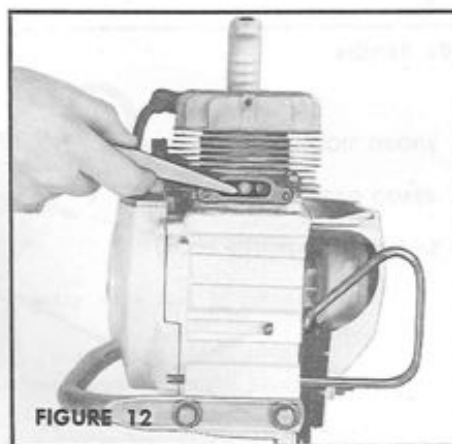

FIGURE 12
3. **EXHAUST PORTS:** While the rear cover is off remove the two stud nuts on the exhaust chamber. Turn your motor to a position where the piston is clear of the exhaust ports. With a blunt edged tool, carefully remove any accumulated carbon and wipe away small particles before reinstalling the exhaust chamber. Replace the exhaust gasket if required. (Figure 12).